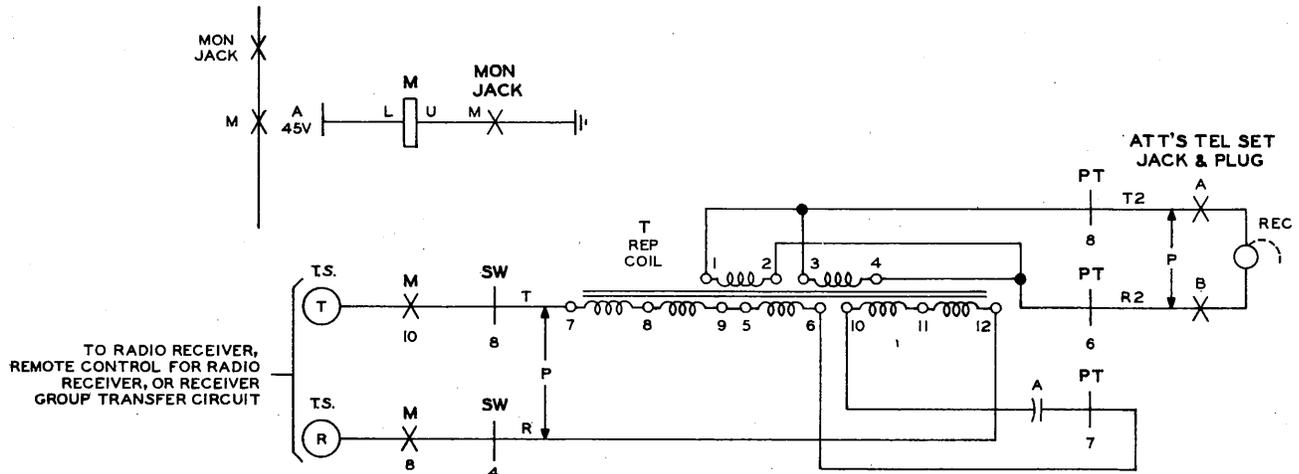

FIG. 4 — MONITOR ON RADIO RECEIVER
3.13 When the MON plug is inserted in the MON jack, ground through the auxiliary contacts of the jack operates the M relay. The operated M relay connects the attendant's telephone set through the unoperated SW and PT relays and the TEL jack to the radio receiving circuit in order to monitor messages from the radio receiver to the direction center (Fig. 4).